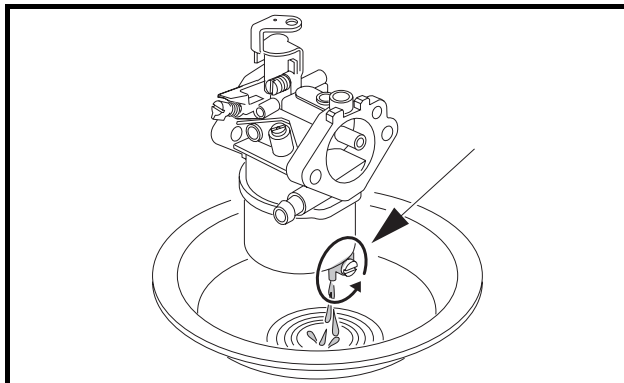

Figure 16-2 Drain Bowl
3. Turn the carburetor bowl drain screw counterclockwise two or three turns and drain all the fuel from the bowl into the catch basin (**Figure 16-2, Page 16-4**). Tighten the drain screw to 10 in-lb (1.1 N·m). Return fuel to the fuel tank or dispose of properly.